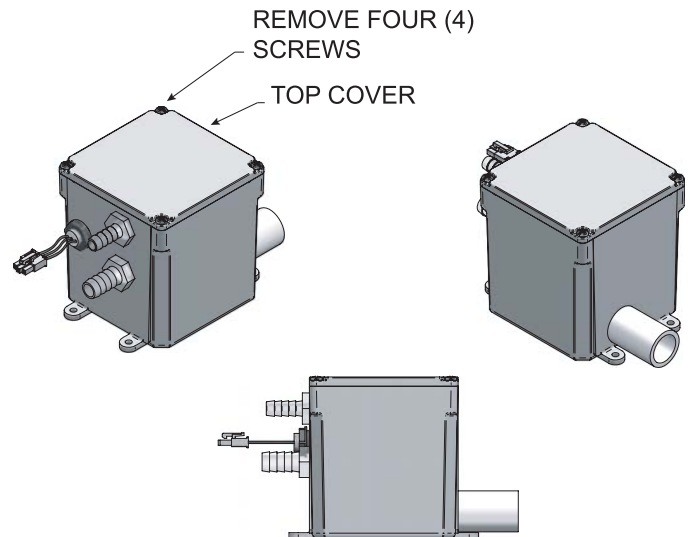

Figure 7-1_Condensate Trap
1. Remove the four (4) screws securing the top cover to the condensate trap and remove the cover (FIG. 7-1).
5. Replace the four (4) screws removed in Step 1.
The condensate trap (FIG. 7-1) must be filled with water during all times of boiler operation to avoid flue gas emission from the condensate drain line. Failure to fill the trap could result in severe personal injury or death.